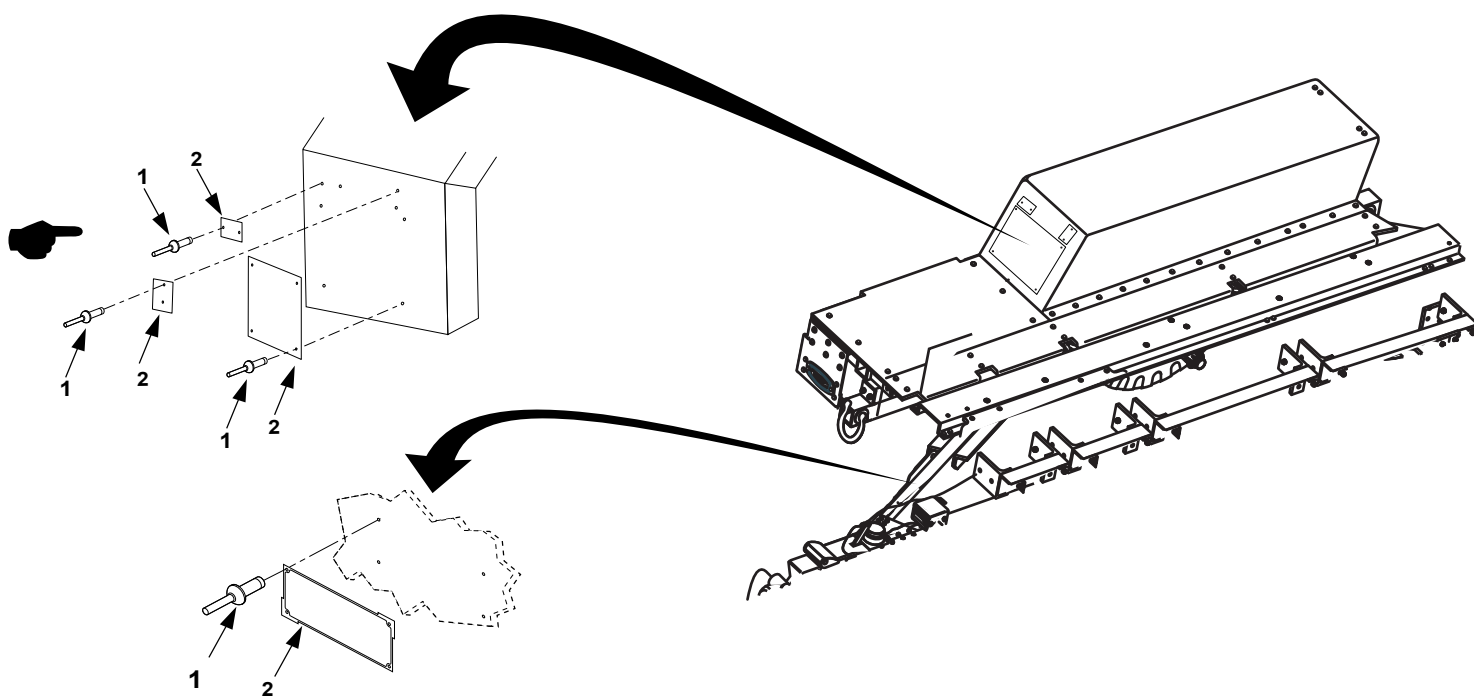

Figure 4-29. Data Plate Replacement (LTT Trailer).
Remove rivets (1, figure 4-29) and data plate (2).